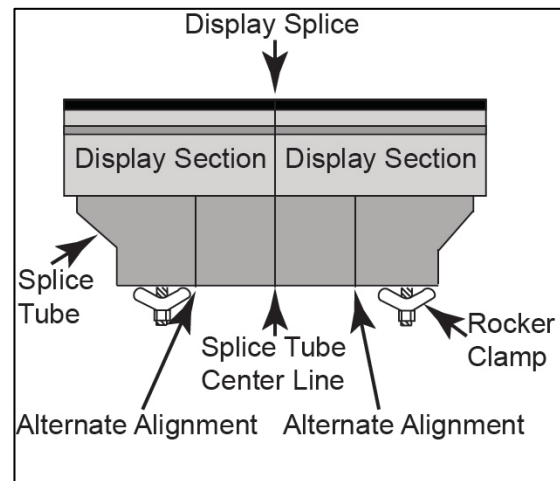

Figure 7: Universal Splice Tube
- If the display has a vertical splice, either from the factory or on-site, locate the 78" splice tube at the splice location. Refer to **Figure 7**. This tube is shipped installed and needs to be secure before lifting the display. This tube also acts as offset extrusion and can engage an upright. If needed, before lifting the display, you can loosen and slide the splice tube until one of the alternate alignment lines align with the display splice. Tighten all splice tube bolts before lifting the display.